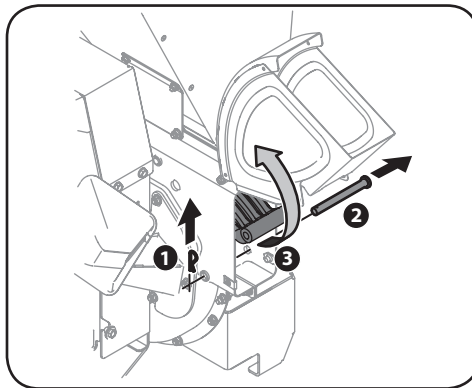

Figure 5-2
3. Remove the hairpin clip from the clevis pin which extends through the housing and shredder screen. Remove clevis pin. See Figure 5-2.
4. Pivot the shredder screen upward. See Figure 5-2. Clean the surrounding area by scraping away debris.